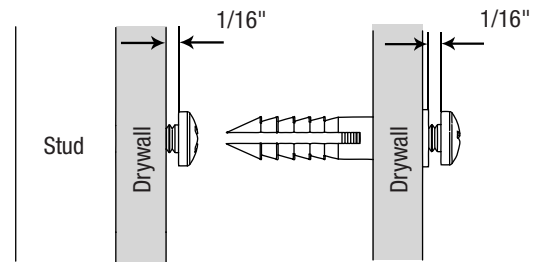

Figure 2
**STEP 2:** Pre-drill pilot holes with a 3/32" drill bit in the marked locations. If a stud is present, insert and fasten the screw leaving a 5/32" gap. If no stud is present, use a 3/16" drill bit to enlarge the 3/32" hole. Insert the anchor and fasten the screw into the anchor leaving a 5/32" gap, as shown in **Figure 2**.